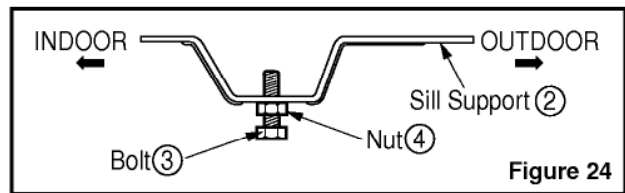

Figure 24
3. Loosely assemble the sill support using the parts in Figure 24.
4. Select the position that will place the sill support near the outer most point on sill (See Figure 24)